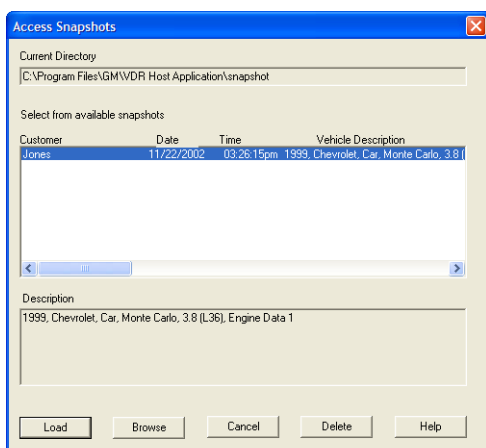

Figure 4.8: Access Snapshots Dialog Box
- 4 When you are finished, click the **Cancel** button to close the Access Snapshots dialog box (Figure 4.8 on page 46).